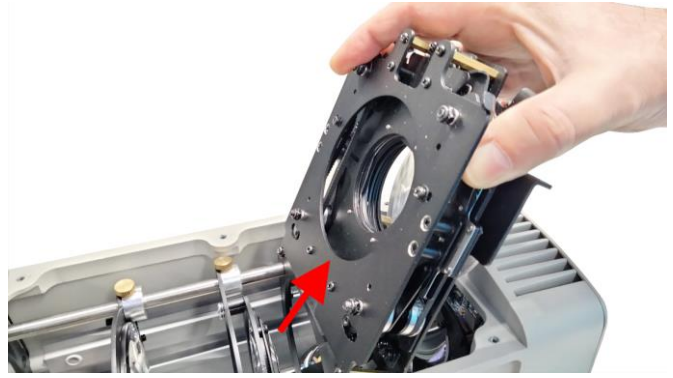

Fig. 15
- 06) Gently lift the gobo/shutter blade assembly a bit up and pull it out, as shown in Fig. 15.